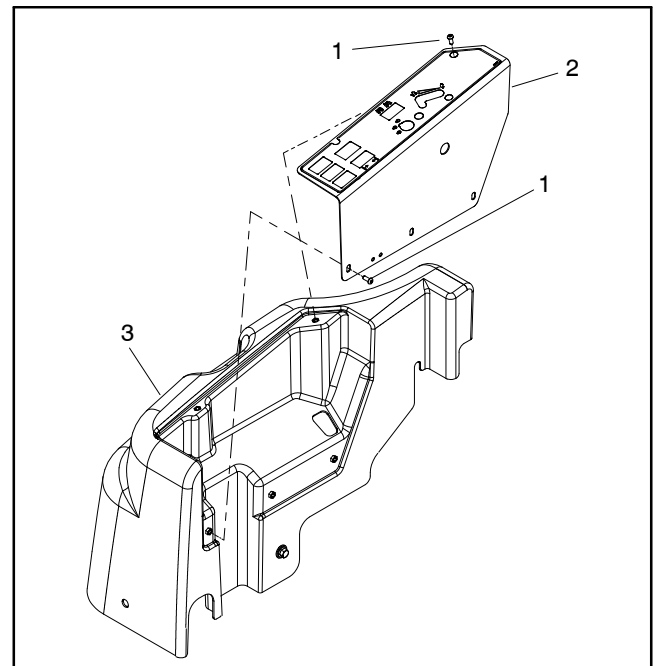

Figure 49
3. Remove five (5) screws that secure control panel to hydraulic tank cover (Fig. 49). Carefully lift and support control panel to allow access to electrical connections.
4. Place control panel on hydraulic tank cover and secure with five (5) screws (Fig. 49).